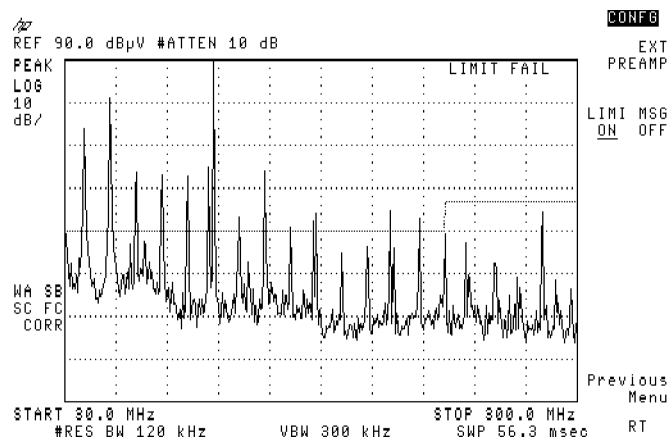

Figure 3-51. Limit-Line Pass/Fail Message
12. Press **LIMI MSG ON OFF** (ON will be underlined). See Figure 3-51.